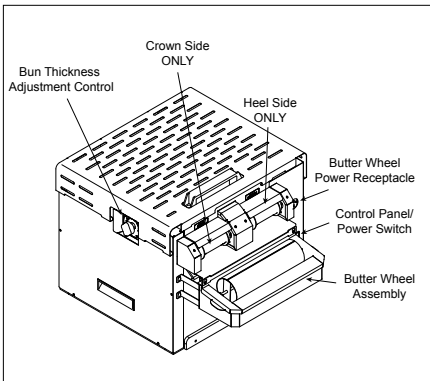

Figure 2. HCT-2010 Toaster
3. Run the Crowns and Heels cut side DOWN across the Butter Wheel and place the bun on the front of the Butter Pan Ramp (Figure 2).